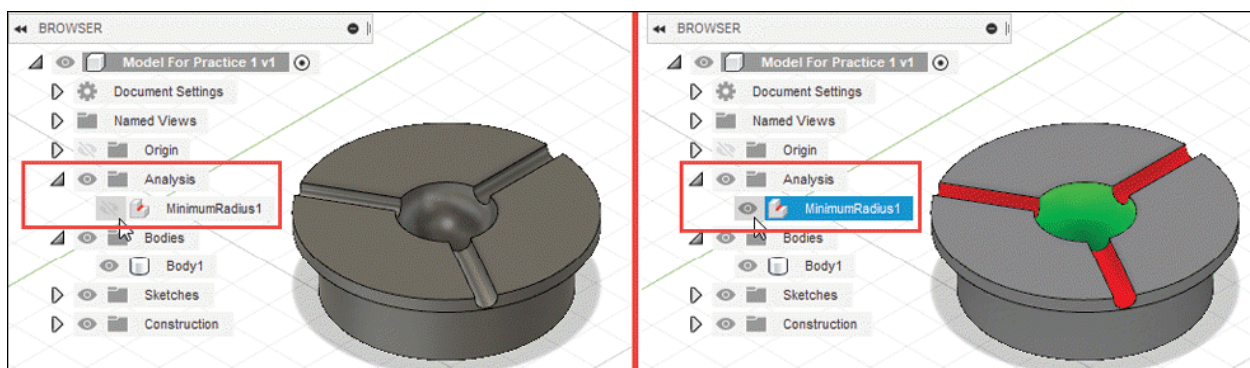

Figure-67. Visibility of minimum radius analysis
- The visibility of this analysis can be control by expanding the **Analysis** folder in the **BROWSER** and clicking on the eye button to view or hide the analysis; refer to Figure-67.